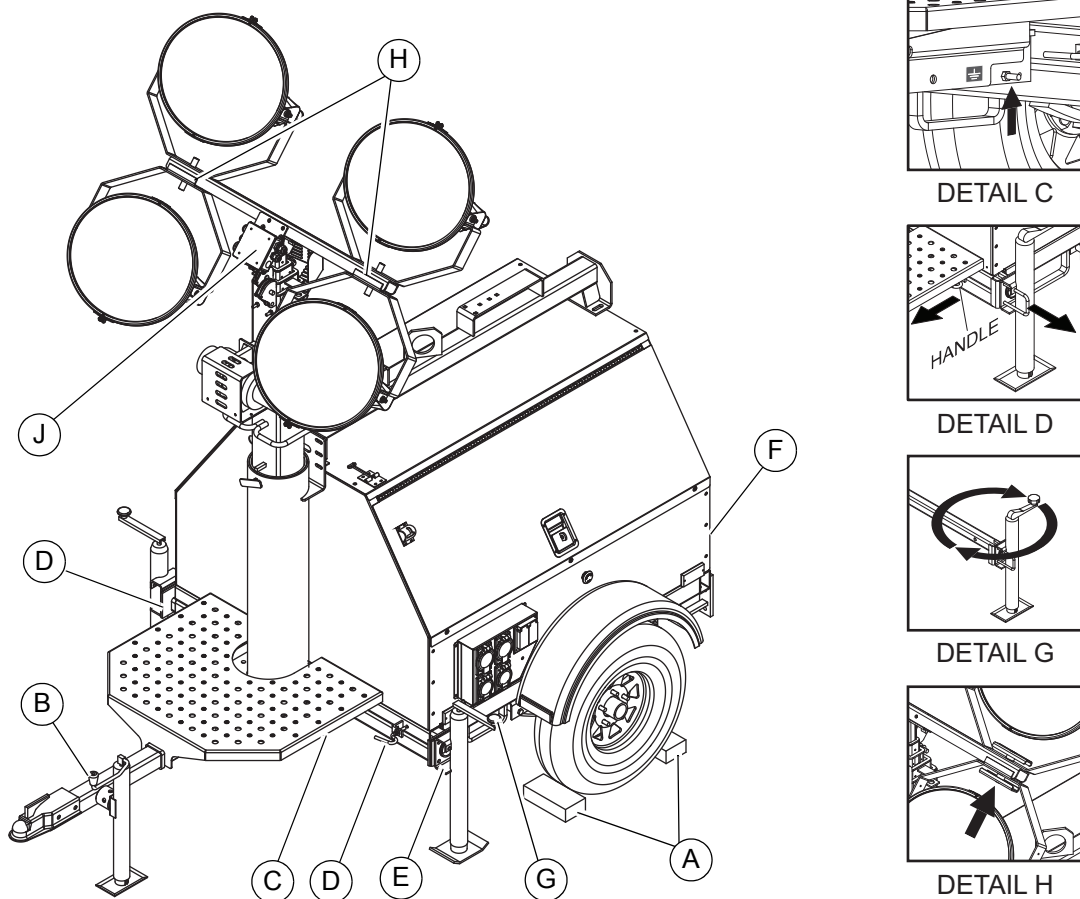

Figure 3-1. Set Up Outriggers and Jacks
2. See **Figure 3-1**. Place the unit on firm ground that is relatively flat (less than 5° slope), and then block the wheels to keep it from moving (A). This will make it easier to level the unit.
3. Pull the locking pin on the tongue jack (B) and rotate the jack 90°. Reinstall the locking pin. Rotate the jack handle clockwise to raise the trailer tongue off the towing vehicle.
4. A grounding stud (C) is located on the frame of the trailer near the trailer tongue. For grounding requirements, follow the National Electrical Code (NEC), state, and local regulations.
5. Pull the locking pins (D) on the outriggers (E) and pull each outrigger out until the spring loaded locking pin snaps back into place. Pull the locking pin on each outrigger jack and rotate each jack 90° so the jack pad is facing down and the spring loaded locking pin snaps back into place.
6. Pull the locking pin on the rear jack (F) and rotate it 90° until the spring loaded pin snaps back into